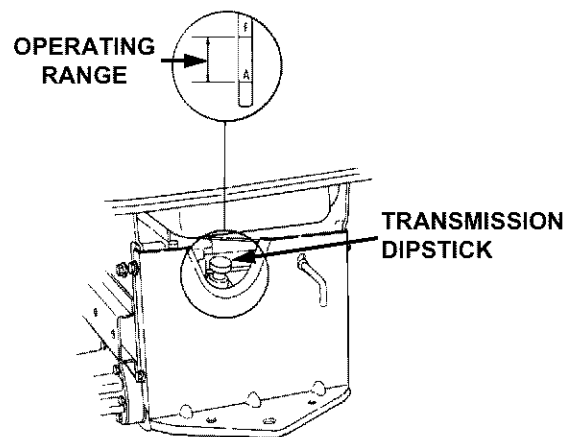

Figure 23
Check the oil level of the transmission case before each use to see that it is filled to the correct level. Before checking the transmission oil level, clean the area around the oil fill plug/dipstick to prevent debris from entering the transmission case. Always keep the oil level between the "FULL" and the "ADD" marks on the dipstick (See Figure 23). When checking the oil level, the dipstick must be withdrawn and wiped clean, then inserted all the way before being withdrawn for a true reading.
3. Remove the oil fill plug/dipstick from the oil fill port and SLOWLY pour oil into the oil fill port. Fill the transmission case until the oil level reaches the "FULL" mark on the dipstick (Refer to Figure 23).